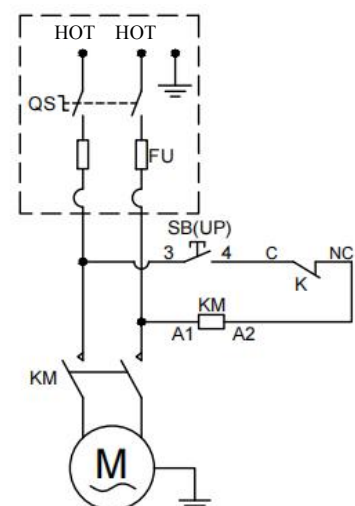
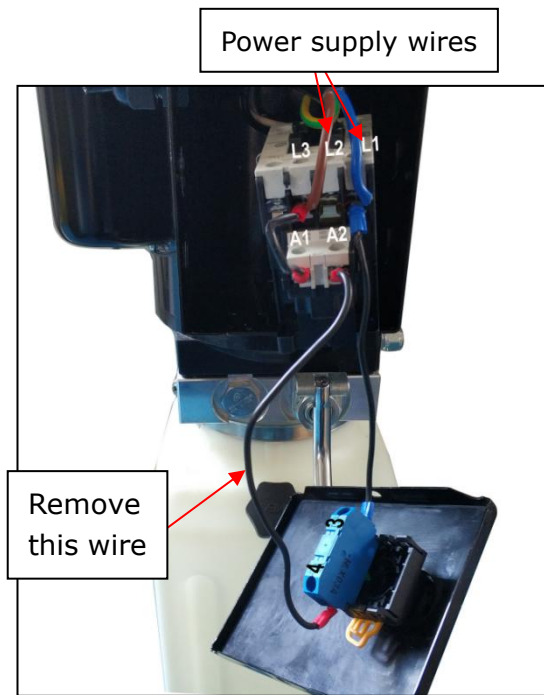

Fig.38
Fig. 39
2. Connecting limit switch wire: remove the short wire connecting terminal 4# of control button and A2 of AC contactor firstly (See Fig.38), then according to the wire number of the limit switch, connect them respectively to terminal 4# of control button and A2# of AC contactor. (See Fig. 39)